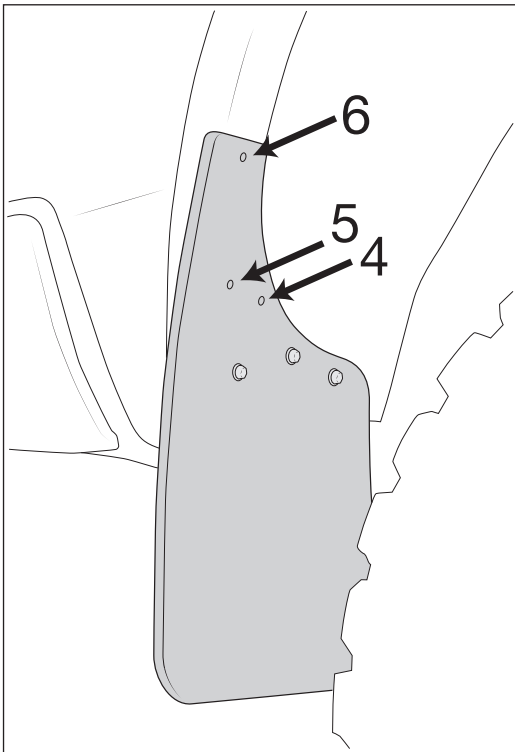

Figure 3
7. Hold the Splash Guard to the fender flare to obtain the best fit. Using the Guard as a template drill 5 mm holes at locations 4, 5, and 6 (Fig. 3).